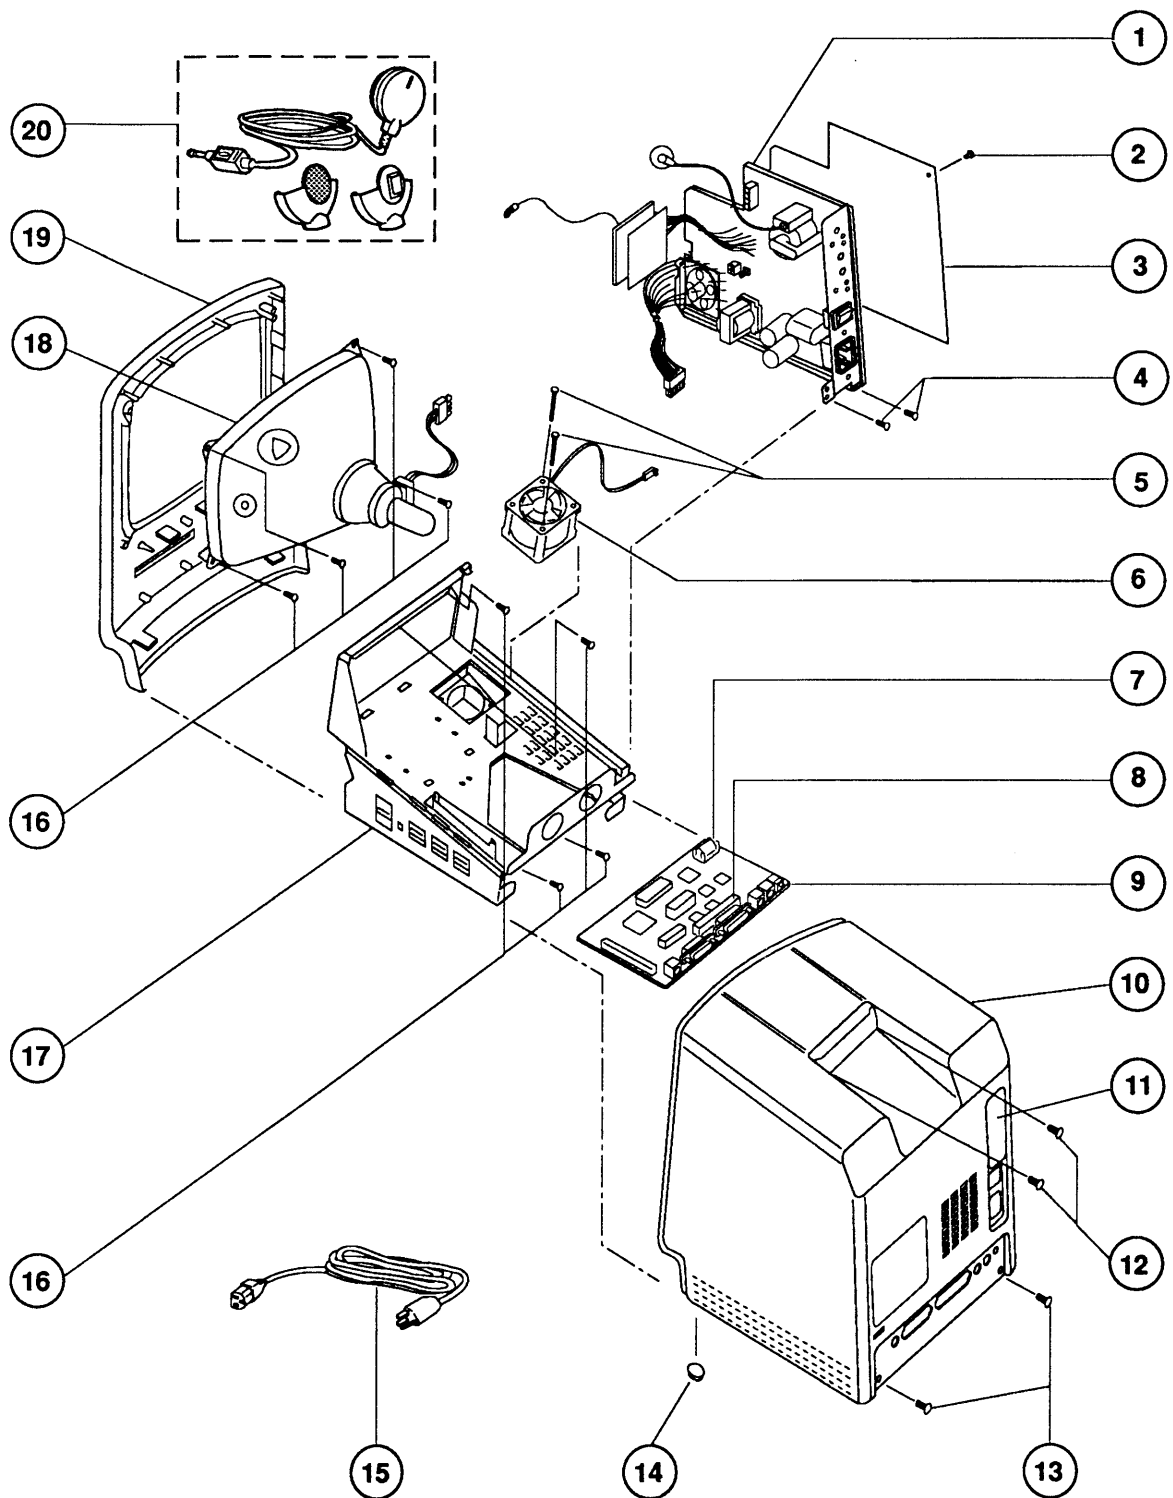

Figure 1 Internal View
- IPL.3 Internal View (Figure 1)
INTERNAL VIEW (Figure 1)